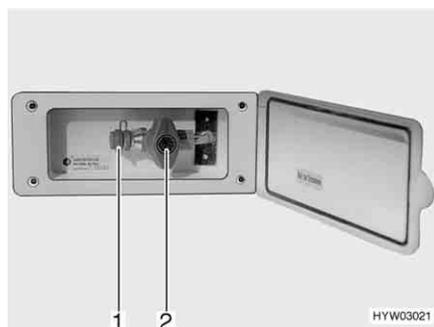

Fig. 98 External gas connection, gas isolator tap closed
The external gas connection (Fig. 98) is located at the rear or to the left or right of the vehicle depending on the model.
- Connect the external gas device to the connection point (Fig. 98,1).
- Open the gas isolator tap (Fig. 98,2).